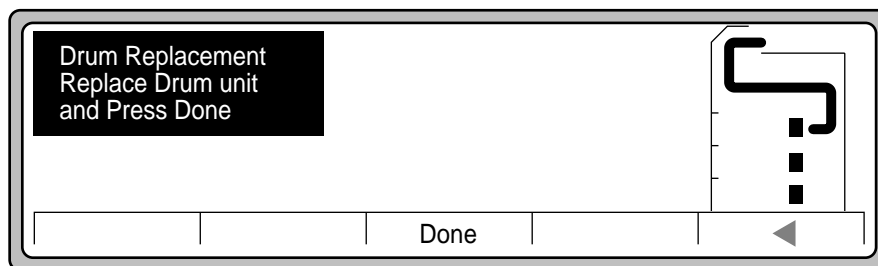

Figure 4-22 Replace Drum
6. Press ► to display drum instructions as shown in Figure 4-22.